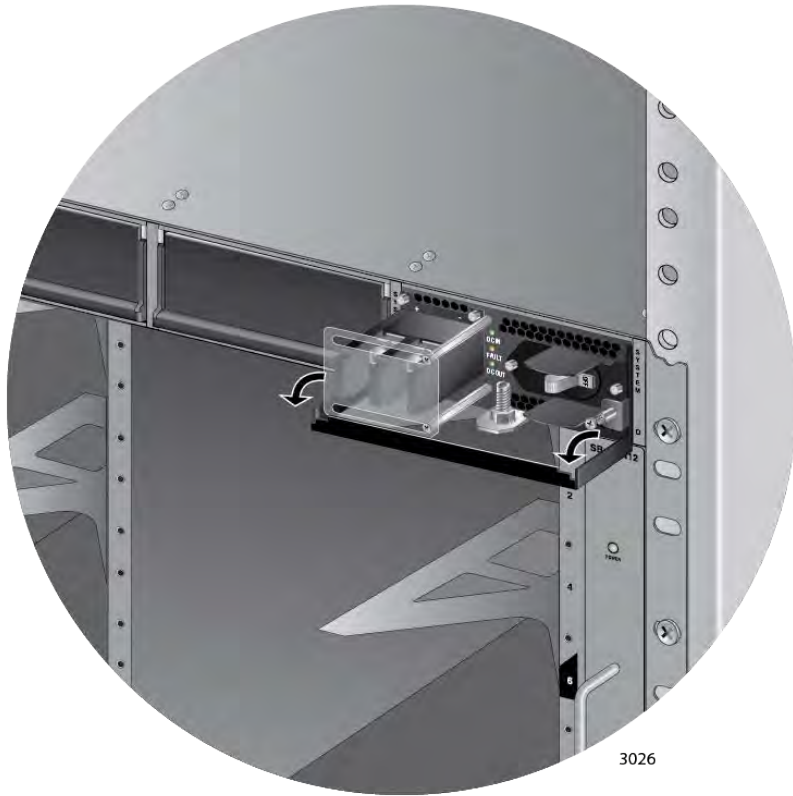

Figure 69. Locking the Handle on the AT-SBxPWRSYS1 DC System Power Supply
8. Lower the locking handle of the power supply module to secure the module in the slot, as shown in Figure 69.